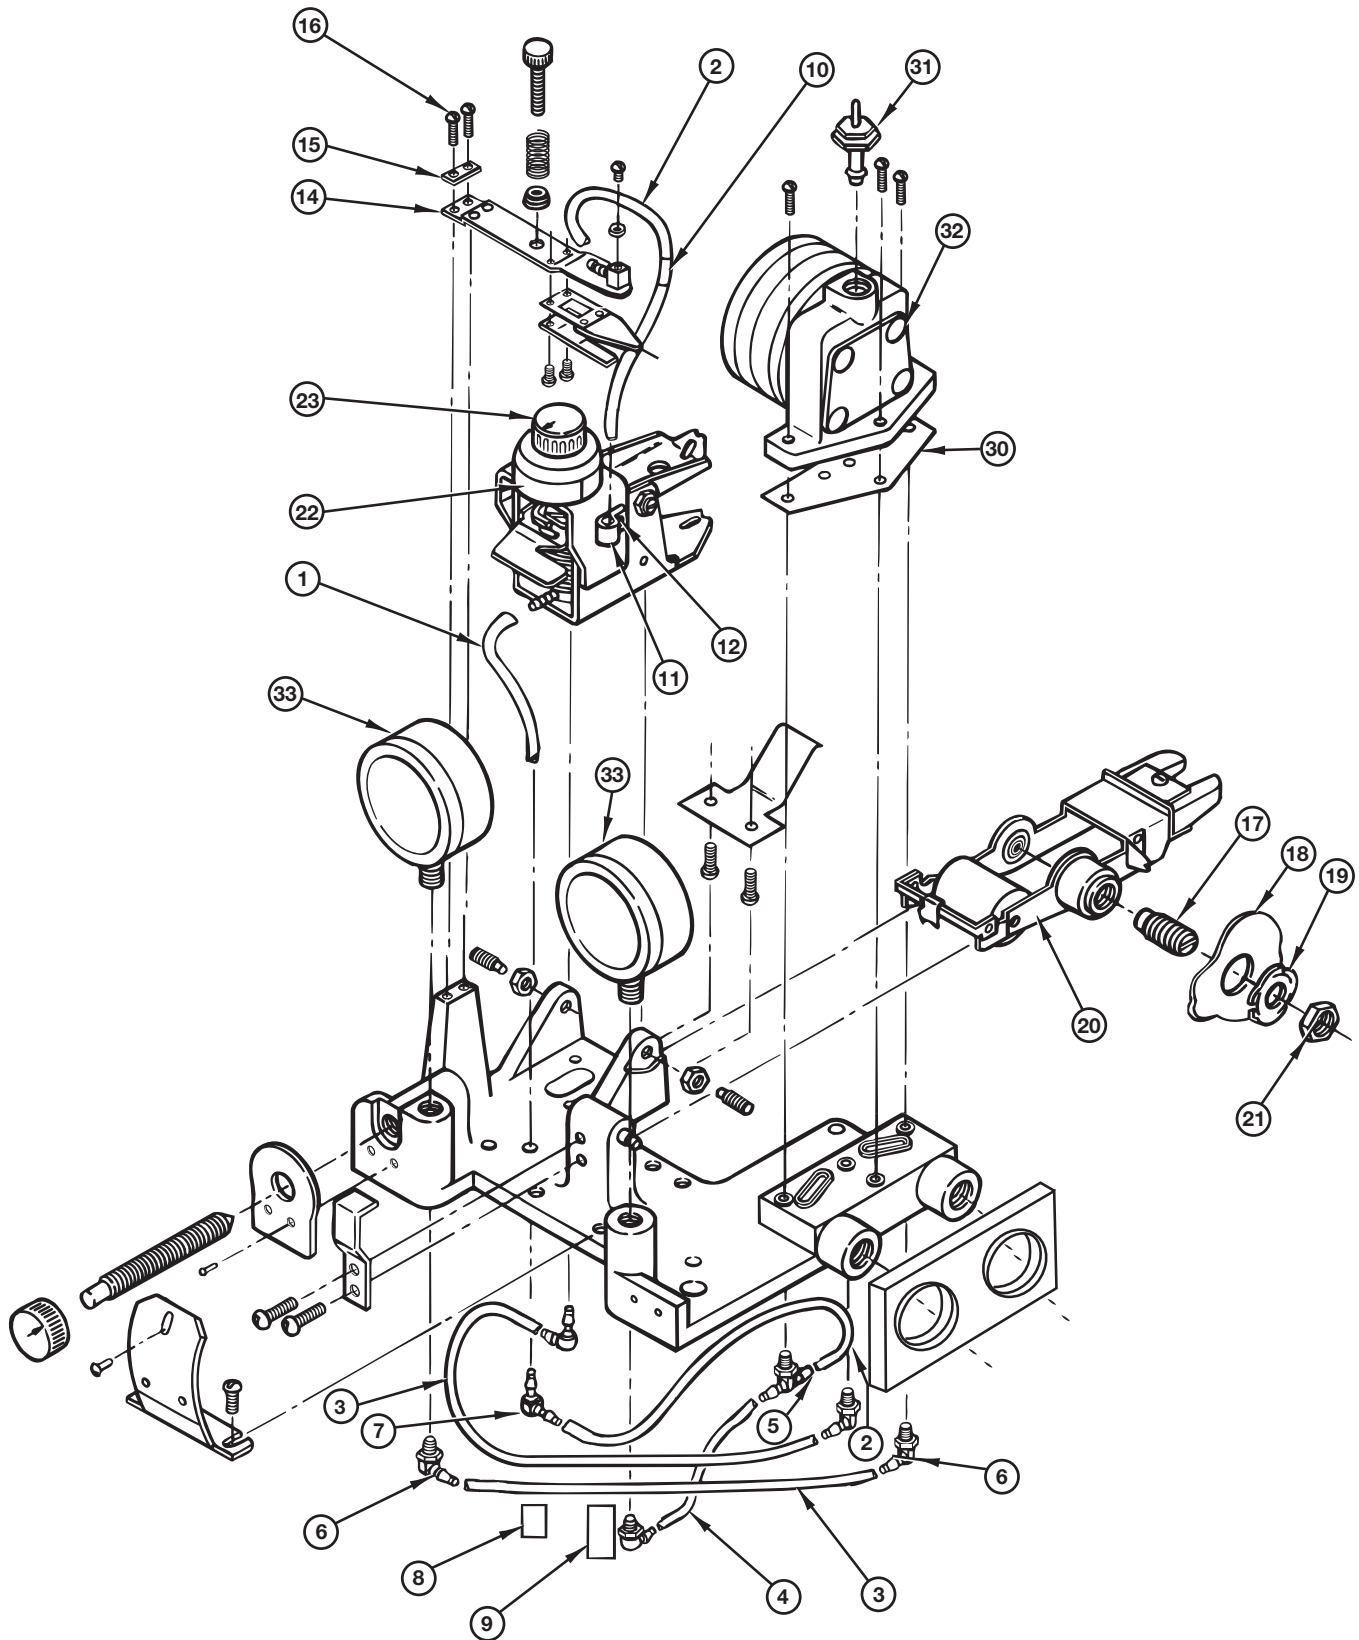

Figure 38
3.3.6.1 Controller Replacement Assemblies Parts Identification (See Figures 38 & 39)
3.3.6.2 Tubing Kit 089-8501-015 ① @ 3-15 and 6-30 psig (See Figure 38)
3.3.6.3 Nozzle Lever Kit 089-8501-002@ 3-15 and 6-30 psig (See Figure 38)
3.3.6.4 Carriage Assembly Kit 089-8501-003 ③ @ 3-15 and 6-30 psig (See Figure 38)
and 89-8501-006 @ 6–30 psig (See Figure 38)**
3.3.6.7 Additional Replacement Parts (See Figures 38 & 39)